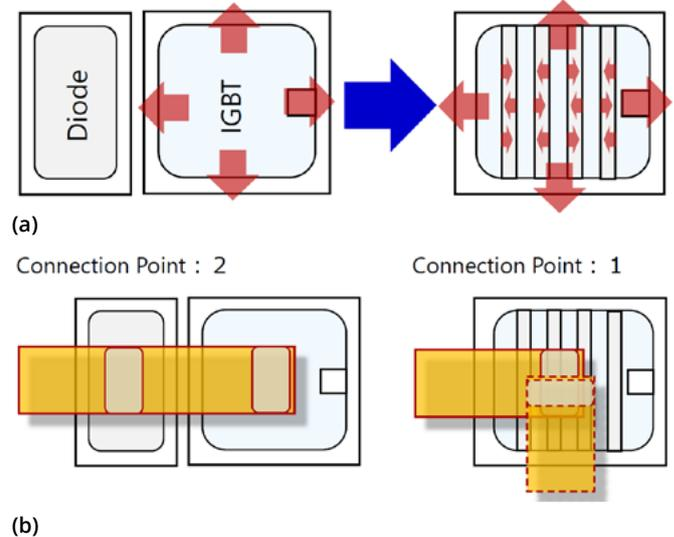

Figure 10: Benefits of integrating IGBT and FWD into one Chip (a) improved heat dissipation (b) simplifying internal wiring
- Expansion of the heat dissipation path: Thermal energy can spread more evenly across the larger, unified chip area, refer to Figure 10 (a).
In traditional module layouts with separate chips, longer internal wiring is required for interconnection. The resulting high parasitic inductance can degrade switching performance and increase EMI. By integrating the components into a single chip, internal wiring can be significantly shortened (refer to Figure 10 (b)), reducing inductance and associated voltage spikes during switching which leads to:
To reduce switching loss, recent advancements focus on optimizing gate capacitance. Conventional gate control adjusts the gate resistance (R_g), but this simultaneously affects both di/dt and dV/dt , limiting optimization. To overcome this, the 3rd Gen RC-IGBT introduces a two-stage trench gate structure as shown in Figure 10, enabling independent control of CGE and CGC. This expands the tunable range of the CGC/CGE ratio, allowing targeted improvement of either di/dt or dV/dt without compromise. For example, with Split gate technology (Figure 11 (a)) lowering CGC/CGE increases dV/dt , reducing turn-on loss (E_{on}) by 20%, while increasing CGC/CGE using SDA technology (Figure 11 (b)) boosts di/dt , cutting E_{on} by 38%. These capacitance optimization techniques are applicable to both single IGBT and RC-IGBT structures.